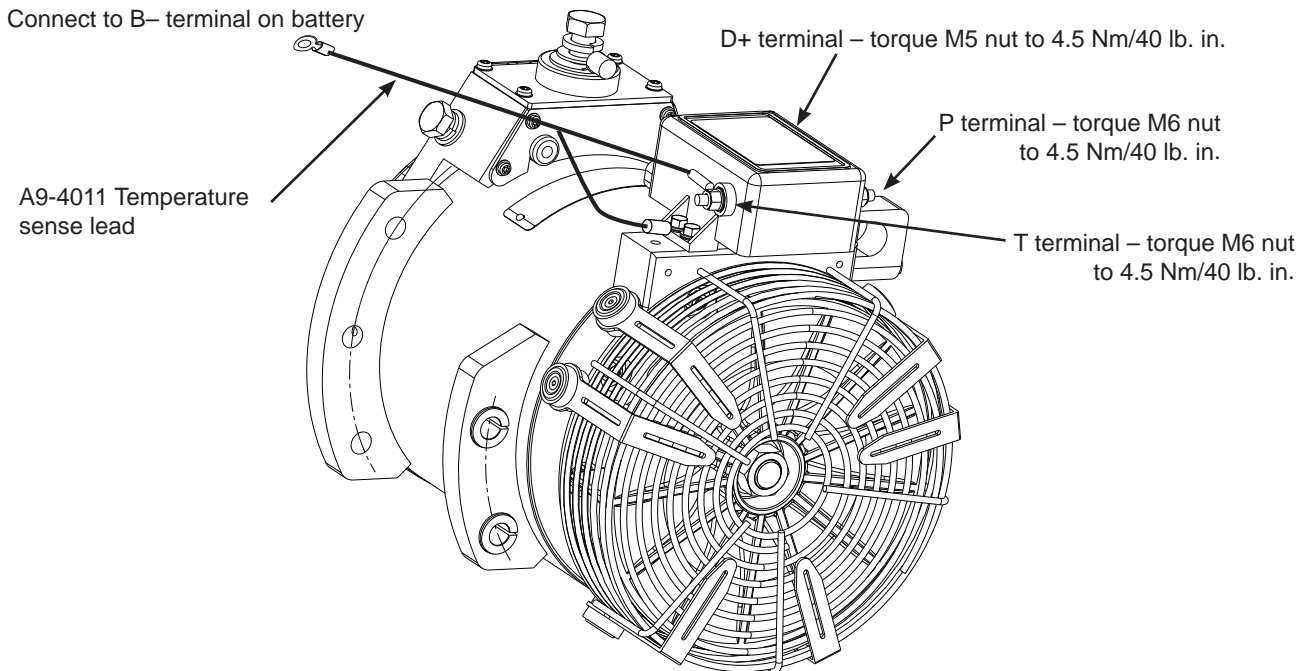

Figure 2 – A2-337 Regulator on C626 Alternator with Temperature Sense Lead
3. If A9-4011 temperature sense lead is used, see Figure 2:
- b) Connect single sense lead ring terminal to B- terminal on battery as shown in Figure 2. Tighten hardware securely.
4. Complete remaining connections to regulator, if required, as shown in Figure 2.